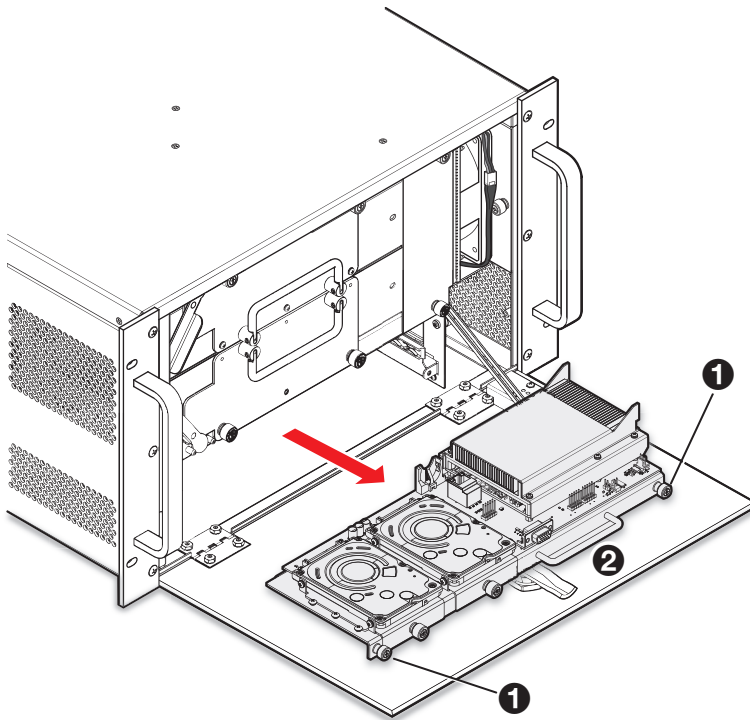

Figure 5. Removing the SBC Assembly
4. Use a screwdriver or other appropriate tool to loosen the thumbscrews at the right and left edges of the assembly (see figure 5, **1**).